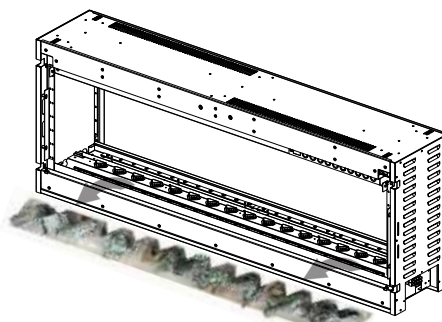

Fig. 4-7
- C. Remove the log set (**Fig. 4-7**).